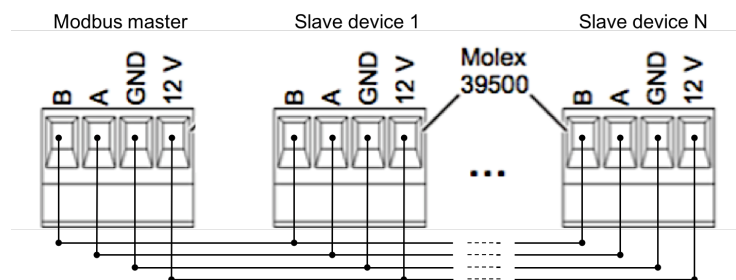

Fig. 4: Wiring the Current Bar to the Modbus Master
- ▶ Attach the connectors of the Current Bar with the connector of the Modbus Master using the AWG22-cable (Fig. 4 shows the pin assignment).